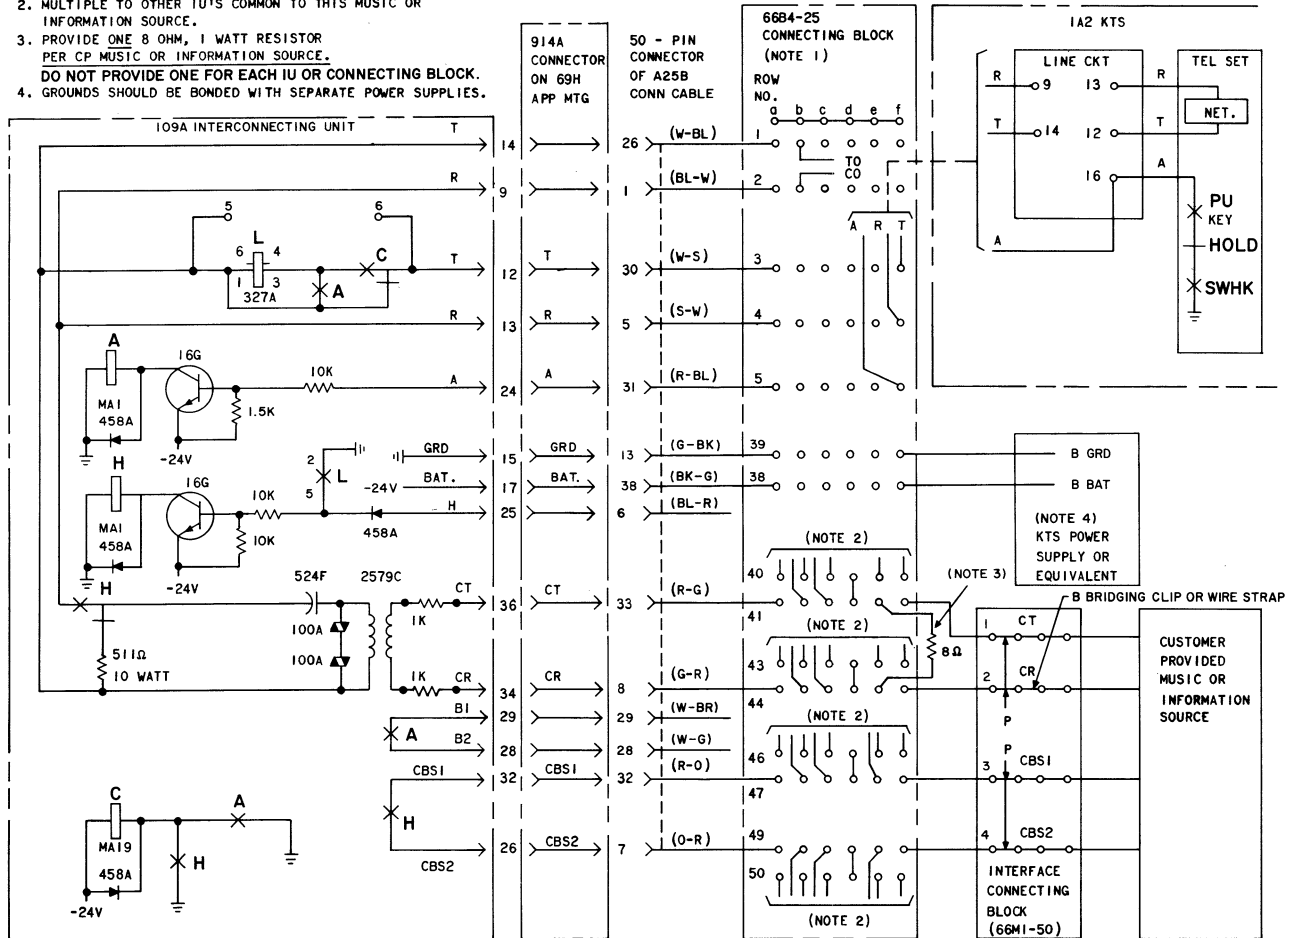

Fig. 5—Connections for Voice Connecting Arrangement LVH with 1A2 KTS
**1A2 Key Telephone System (109A IU, Fig. 5)**
**109A Interconnecting Unit (Fig. 5)**
REFER TO FIG. 5 FOR 1A2 KTS